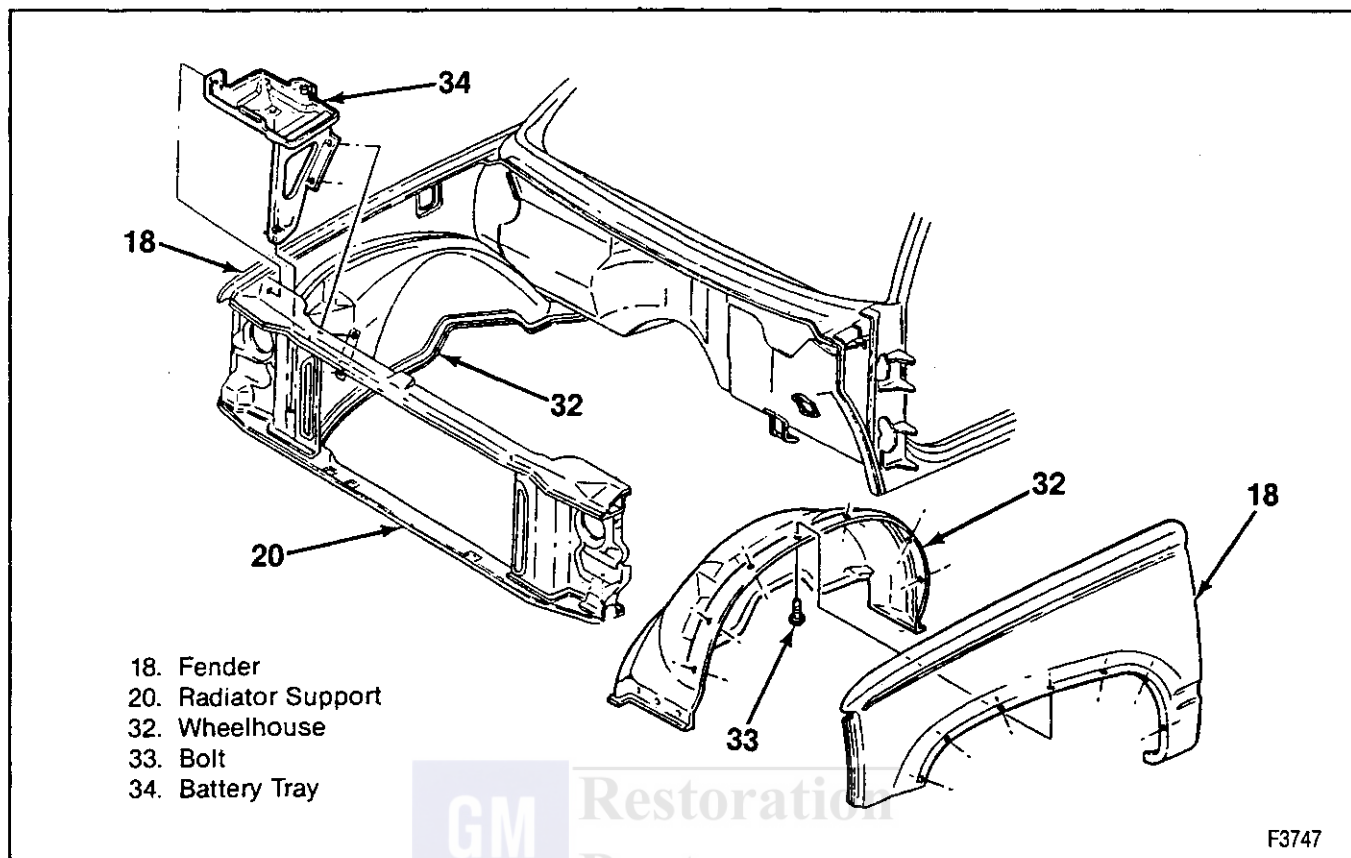

Figure 8—Fender and Wheelhouse Assemblies
Remove or Disconnect (Figures 8, 9, and 10)
13. Bolts holding the fender to the wheelhouse (figure 8).
Install or Connect (Figure 8, 9, and 10)
7. Bolts through the wheelhouse to the fender (figure 8).
10. Bolts holding the fender to the wheelhouse (figure 8).